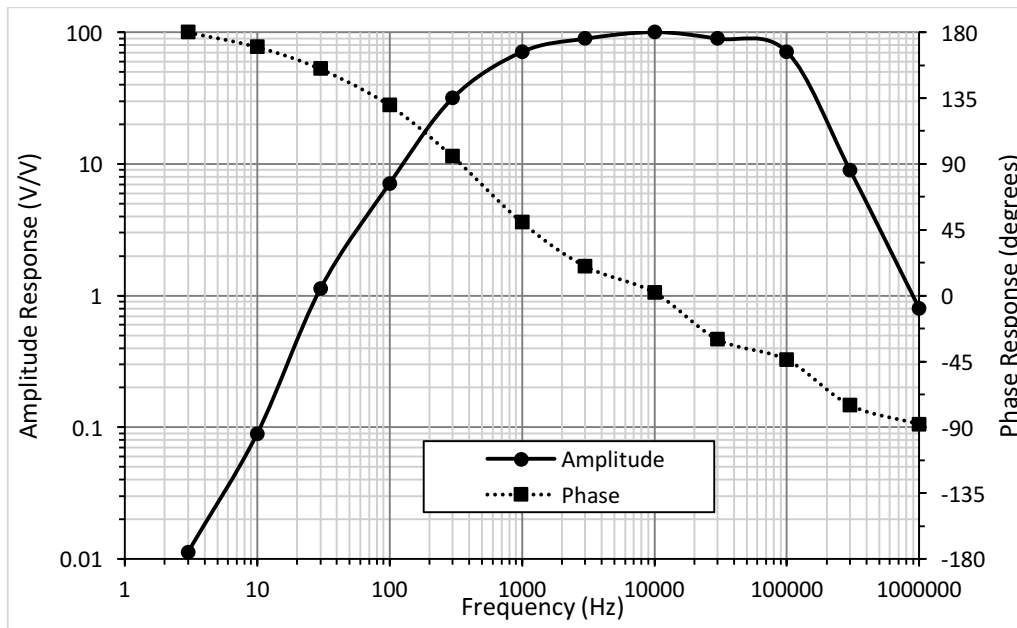

Figure B-10 Amplifier response with magnitude in V/V
The six orders of magnitude variation in frequency demands a logarithmic plot for the horizontal axis. If Amplitude Response was given in Volts per Volt, the dynamic range would be .01 (at the bottom) and 100 (at the top). The discipline (EE) provides a solution: The Voltage scale can be converted to decibels. Each “Bel” is an order of magnitude of power. Since a factor of 10 increase in Voltage gives a factor of 100 increase in power, we would convert a factor of 10 for Voltage to be 2 Bels (a factor of 100 for power, assuming a constant resistive load) or 20 decibels, abbreviated dB. That allows us to use a linear scale for both Amplitude and Phase response. If we had to do amplitude using a log scale, we’d get figure B-10 below. Note that the horizontal minor gridlines do not match up with the phase scale (but the major gridlines do).